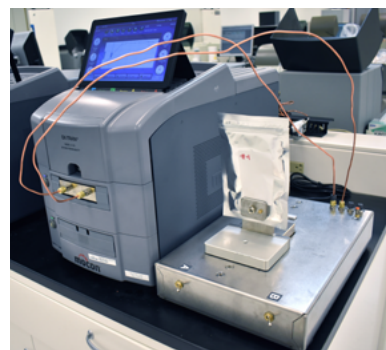

Figure 3. Connect samples in a chamber.
- For tests requiring controlled temperature and RH conditions, connect the assembled package samples in a chamber (Fig 3.) with the package adapter cartridge via copper tubing. Tubing will need to be routed through an entry port on the side wall of the chamber.